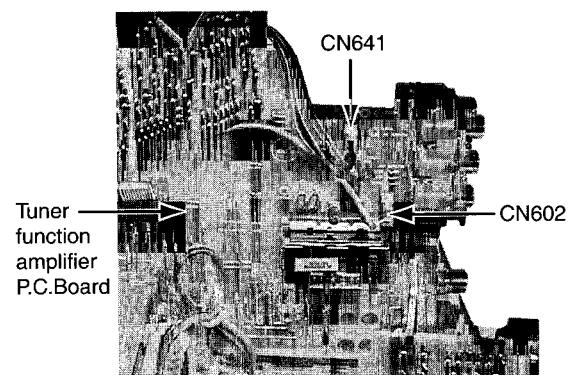

Fig. 7
6. Disconnect the connector from CN602,CN641 on the tuner function amplifier P.C.Board (See Fig 7).